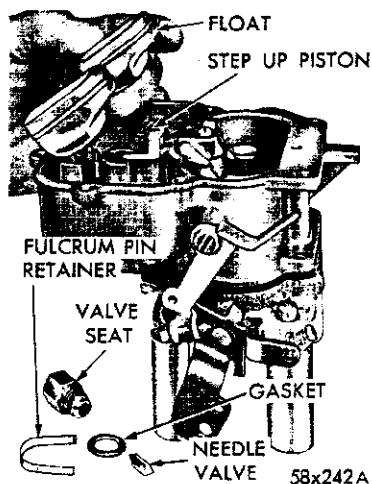

Fig. 6—Removing the Float
(6) Remove the fuel inlet needle valve, seat and gasket from the main body.
(7) Lift out the float fulcrum pin retainer, and lift out the floats and fulcrum pin, as shown in Figure 6.
(8) Remove the step-up piston and retaining